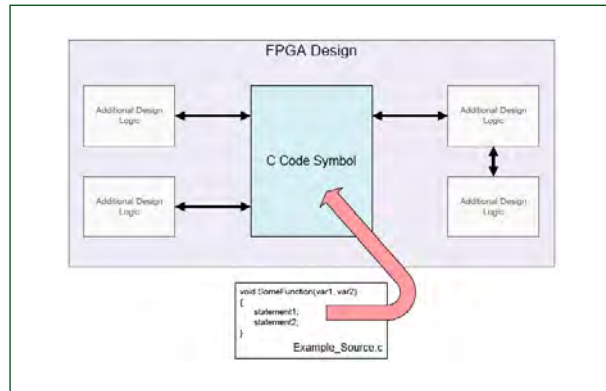

Figure 1. A C function, represented using a C Code Symbol, is converted into an FPGA block and connected into the overall system.
1. The first use is in developing functional circuit blocks in C. In this case the compiler is used to convert individual C functions into hardware. A so-called 'C Code Symbol' makes it easy to integrate the function into the design. The result of the compilation process is an FPGA block that can be used as a module alongside other circuit blocks written in VHDL or Verilog, or ready-synthesised IP modules, connected via its defined inputs and outputs (**Figure 1**).